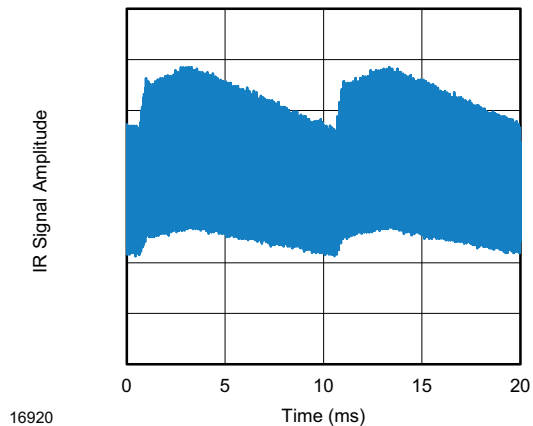

Fig. 13 - IR Signal from Fluorescent Lamp With Low Modulation
- Strongly or weakly modulated patterns from fluorescent lamps with electronic ballasts (see Fig. 13 or Fig. 14)